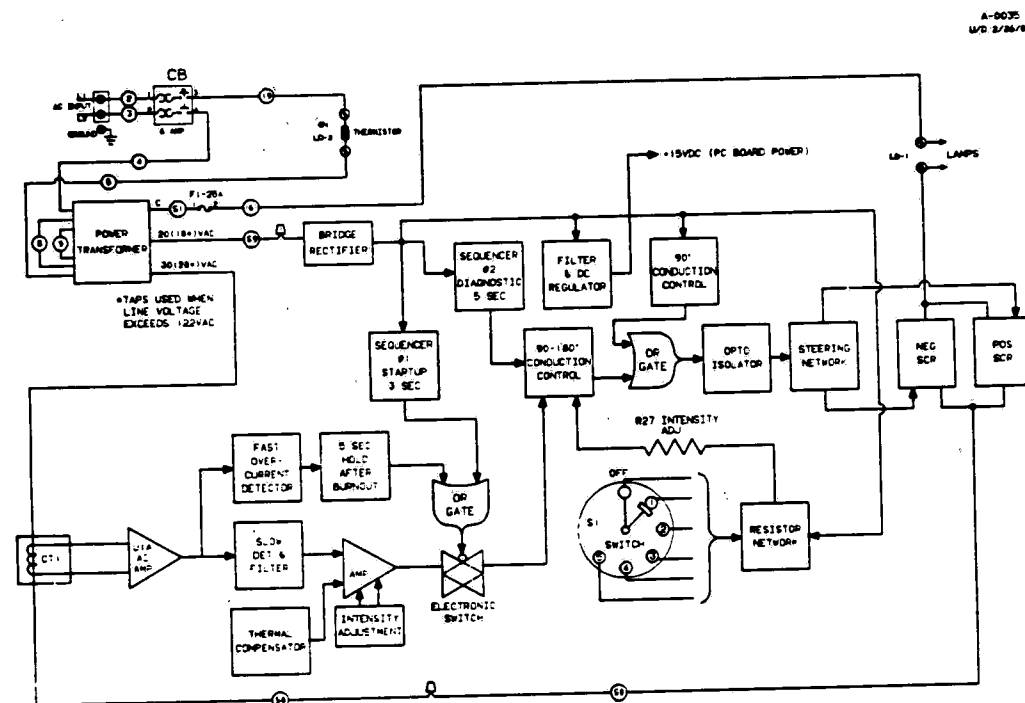

Figure 1-3. VARIABLE INTENSITY CONTROL BLOCK DIAGRAM.
1.3.3 SCR Module Theory (See Figure 1-3)